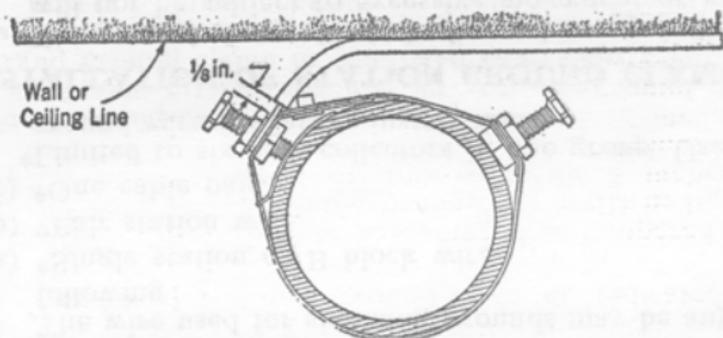

Fig. 1—Typical Ground Clamp Installations
- (c) Bend the strap on each side of the soldered nut as shown in Fig. 1.
- (f) If pipe is too large for a single clamp, use two clamps bolted together as shown in Fig. 1.